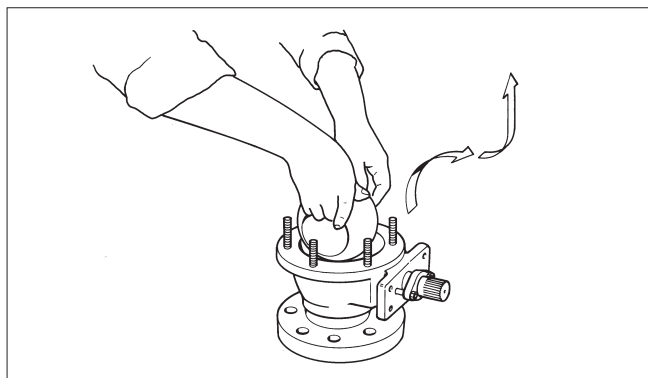

Fig. 17 Removing the ball from the body
- Remove the ball (3) from the body (1) by gripping the edges of the flow bore (small sizes) or by passing a lifting sling through the bore (large sizes). To detach the ball from the spline driver (4), turn the ball to the closed position before lifting. Make sure that the ball is not damaged and put it onto a soft surface (see Figure 17).